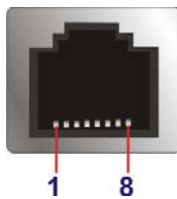

Figure 3-36: RJ-45 RS-422/485 Serial Port
- CN Pinouts:** See **Table 3-6** and **Figure 3-36**